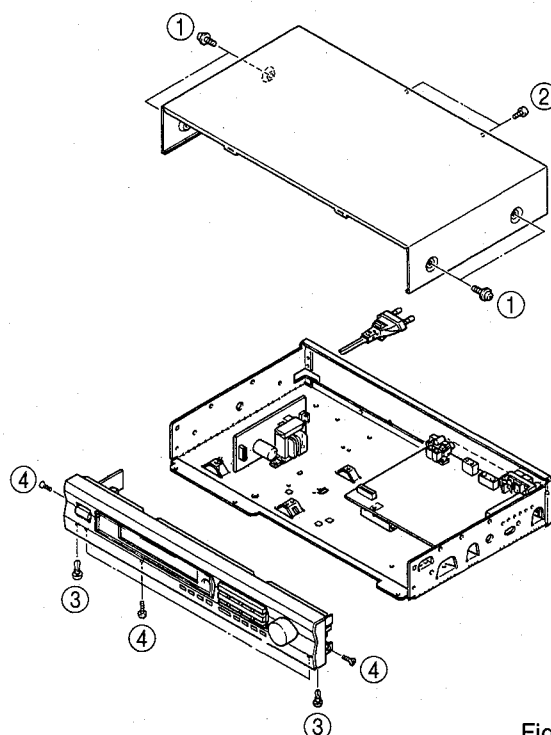

Fig. 1
Remove 4 screws (①) and 2 screws (②) in Fig. 1.
- a. Remove 2 plastic rivets (③) in Fig. 1.
- b. Remove 5 screws (④) in Fig. 1.